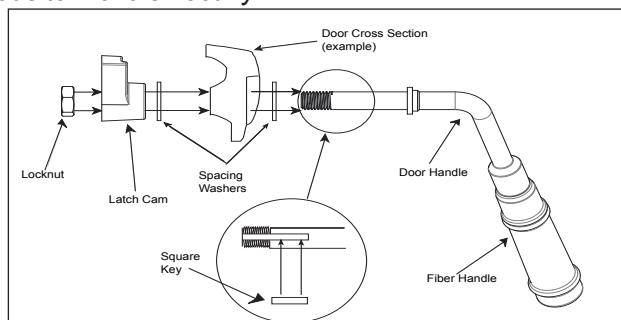

Figure 19.1
2. Install additional washer(s) as shown in **Figure 19.1**
6. Install fiber handle. **Figure 19.1**